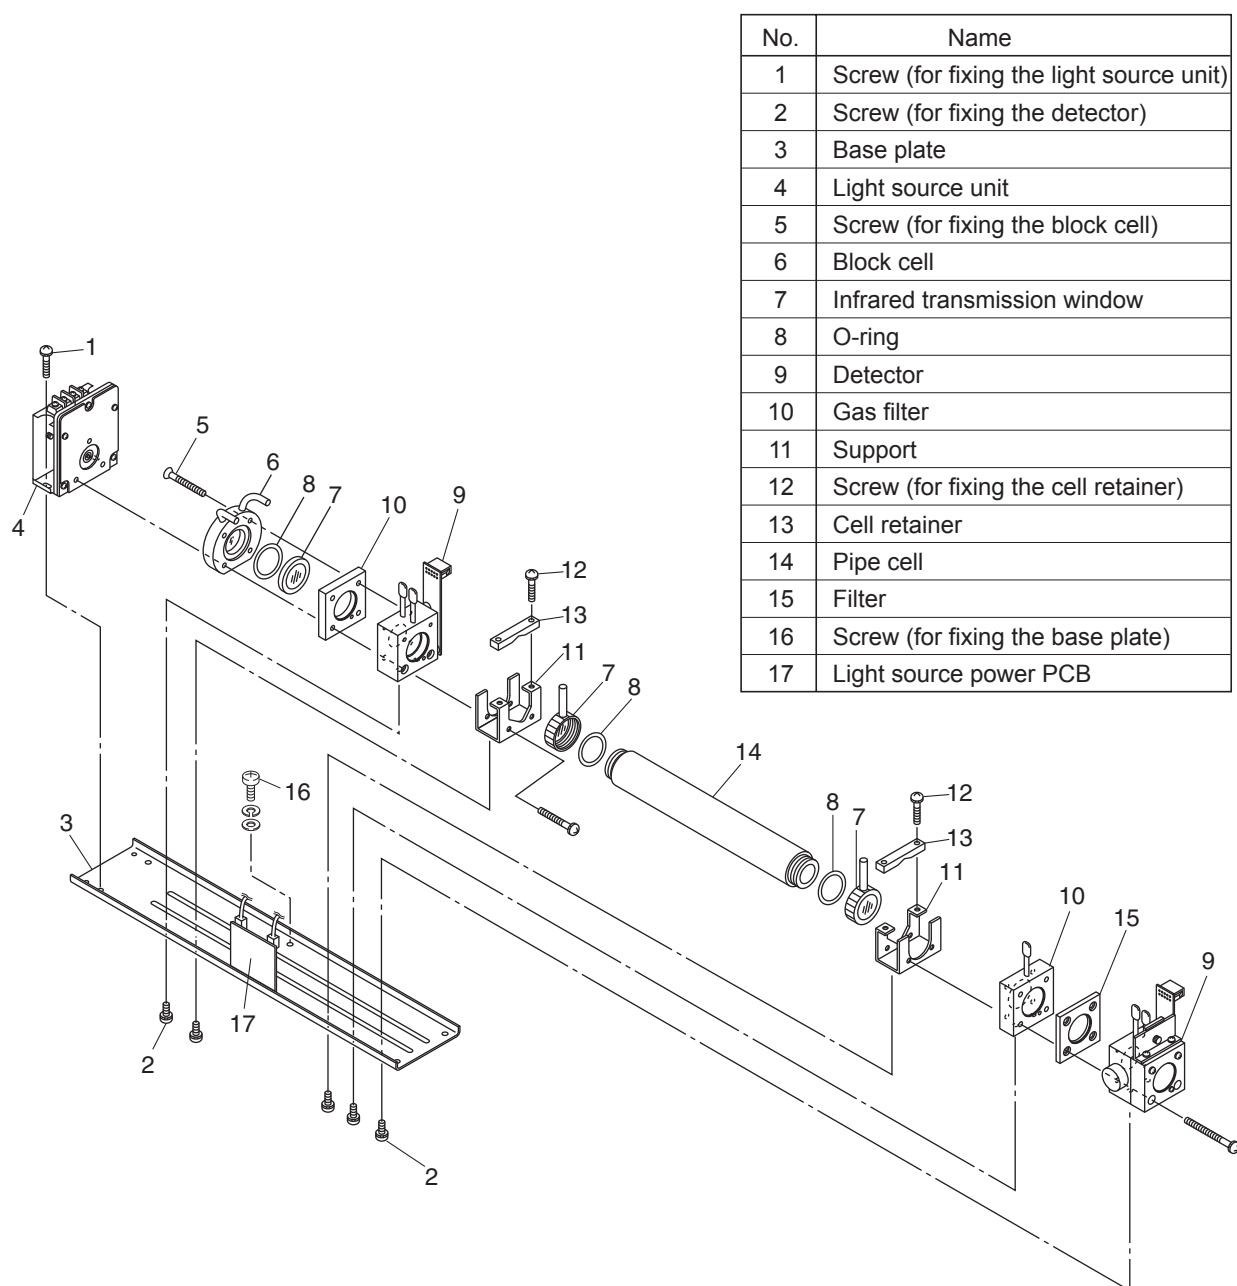

Fig. 7-3 Configuration of measuring unit (2-component analyzer: block cell + pipe cell)
2-component analyzer may incorporate both sampling cells in one optical unit. In such a case, detach the pipe cell and then block cell (See Fig. 7-3).
c. **How to remove measuring unit (See Fig. 7-3)**